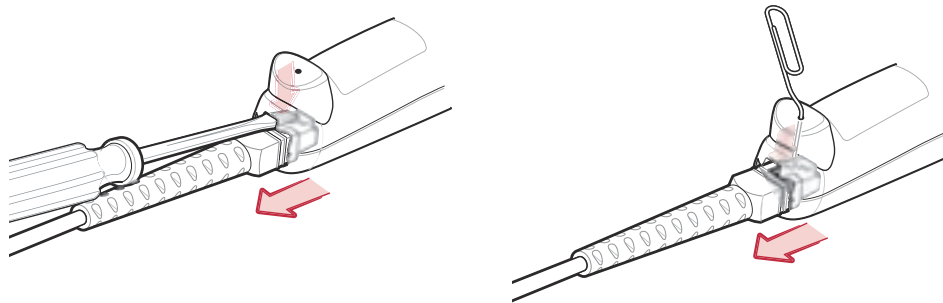

Figure 1-3 *Removing the Interface Cable*
1. Unplug the installed cable modular connector by depressing the connector clip with the tip of a screwdriver, or a paper clip as shown in Figure 1-3.